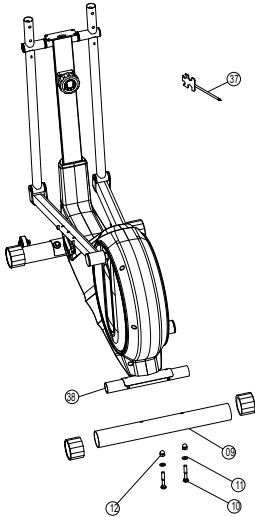

Figure 5
Sit with your feet facing each other and your knees pointed outward. Grab your feet with both hands and gently pull them toward your groin. Hold for 10-15 seconds, then relax. Repeat 3 times (see Figure 5).
5. Install the concave surface of the No. 39 foot cover onto the rear foot tube, remove the No. 38 packaging foot tube, and use two No. 10 carriage screws M8*75, No. 11 arc-shaped gaskets 8.2*Φ20, to fix the No. 01 main frame assembly and No. 09 rear foot tube assembly together. As shown in Figure 5: